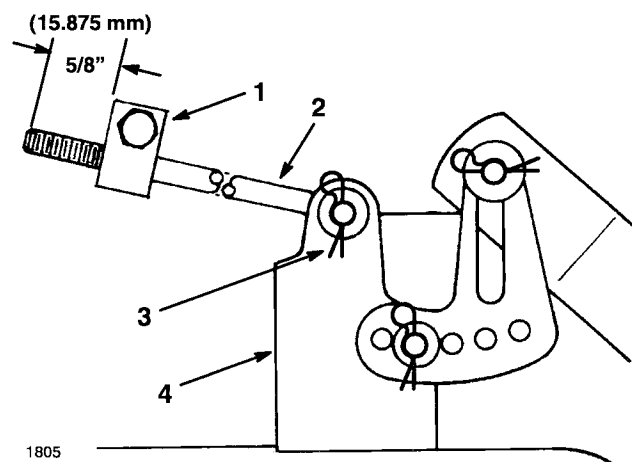

Figure 51
3. Measure the length of the rod extending out the front of the adjusting block on the sides of the chassis (Fig. 51). If the rod length is not 5/8" (15.8 mm), remove the hairpin cotter and washer from the end of the rod (Fig. 51), and turn the rod until the 5/8" (15.875 mm) dimension is obtained. Then install the end of the rod into the hole in the mower mount and secure in place with washer and hairpin cotter. Repeat procedure on the opposite side.